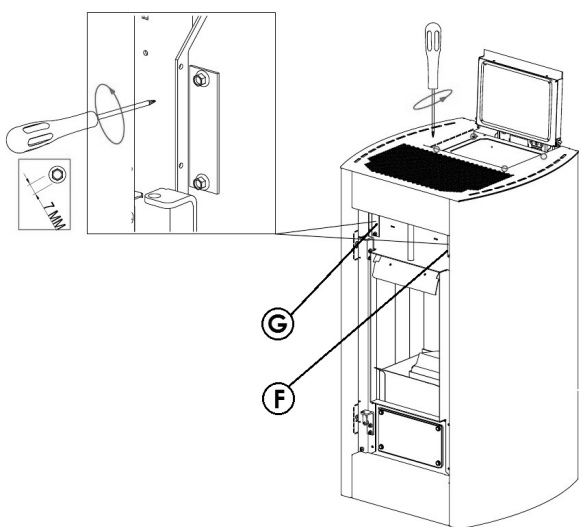

Fig. 83 - Plates removal
- When the stove is cool, remove plate "F" by loosening the two screws (see **Fig. 83**).